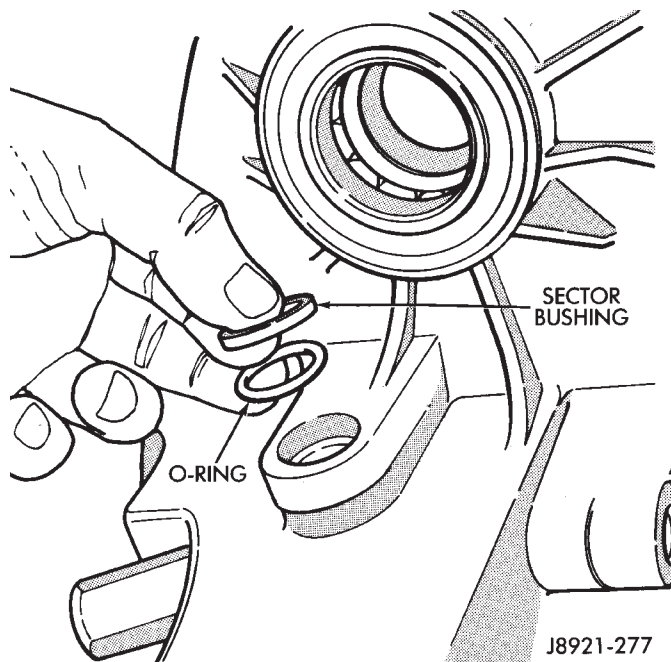

Fig. 60 Sector O-Ring And Bushing Installation
- (1) Install new sector shaft O-ring and bushing (Fig. 60).